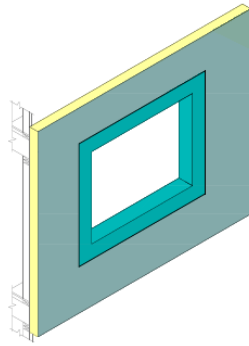

figure 13
- b. Apply Dymonic 100 (40 wet mils) into the rough opening in a zig zag pattern so that the sill, jambs and head are properly detailed. Once the sealant is installed, smooth with a trowel to ensure uniform and complete coverage. The job details will indicate the width required for this detailing depending on the depth of the rough opening and the connection to the fenestration – Figure 13.